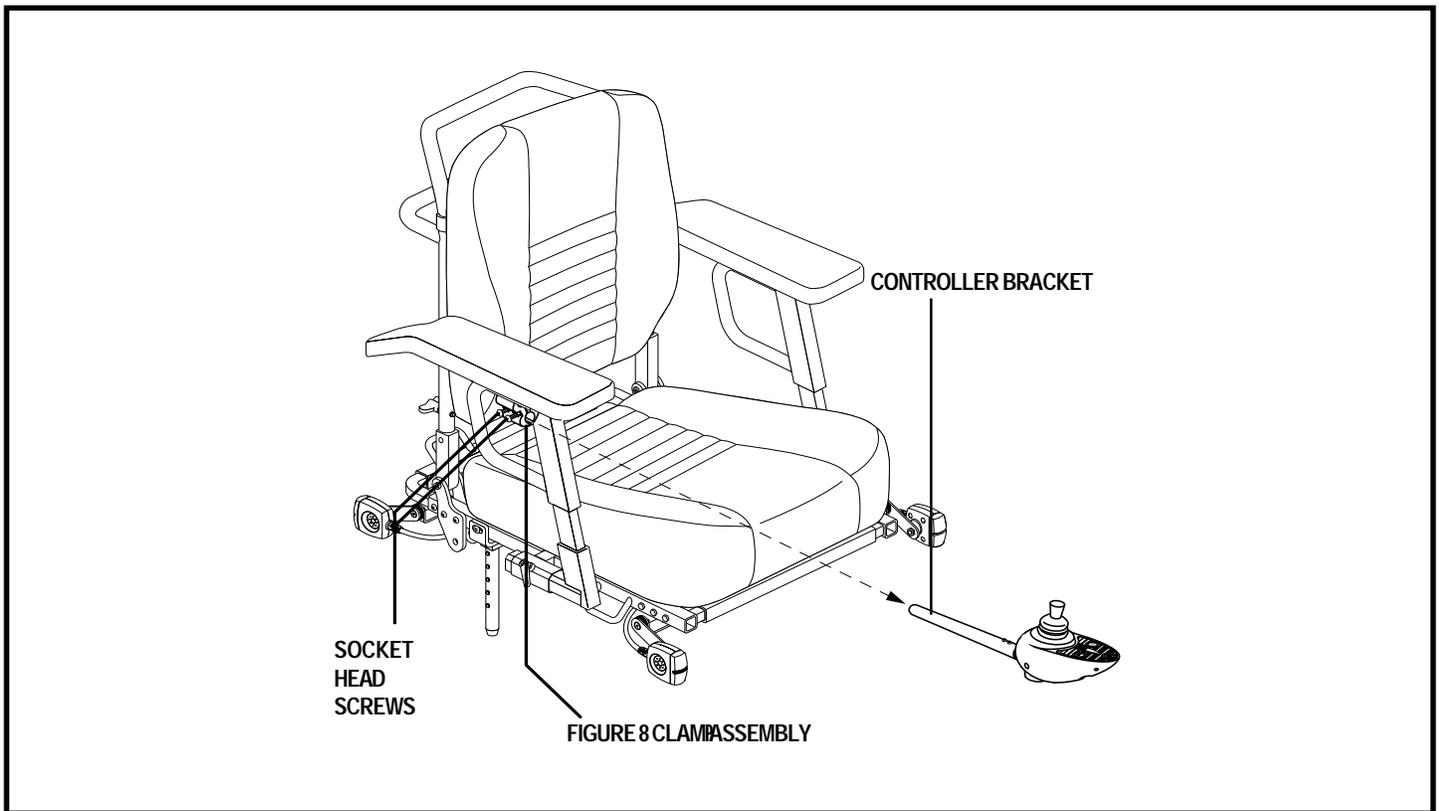

Figure 19. Controller Position
4. Loosen the socket head screws on the figure 8 clamp assembly located on the armrest. See figure 19.